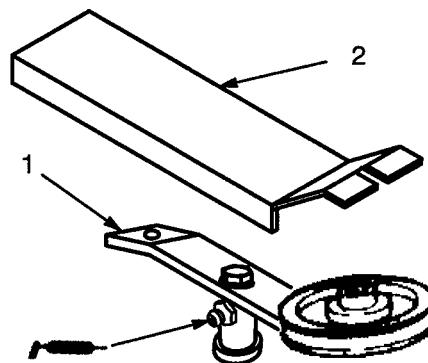

Figure 17
1. Lubricate blower pulley idler arm every 25 operating hours with # 2 multi-purpose lithium grease (Fig. 17). Belt cover must be removed to gain access to grease fitting.